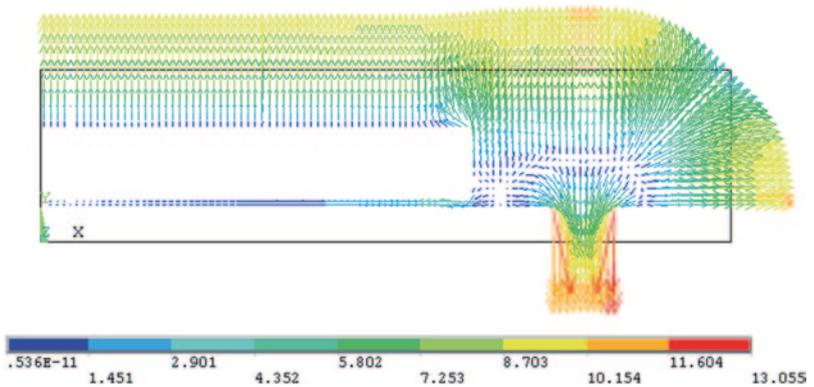

Fig. 9.75 Vector plot of flux
– *Vector Plot of Predefined Vectors* dialog box appears; click on **OK**. The vector plot appears, as shown in Fig. 9.75.